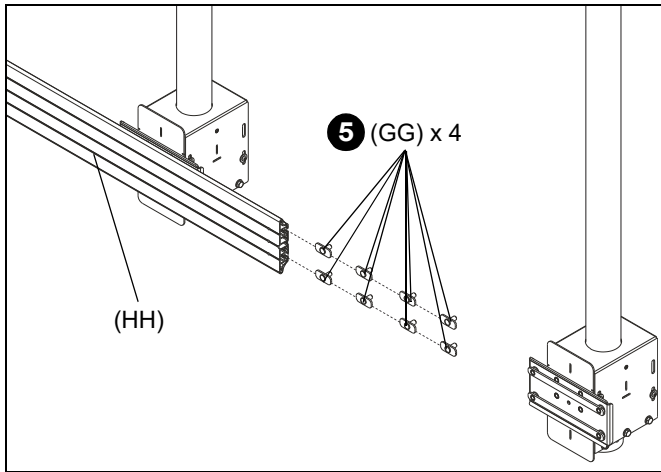

Figure 5
5. Slide four wind shield connectors (GG) into back grooves on 2 x 1 rail (HH). (See Figure 5)